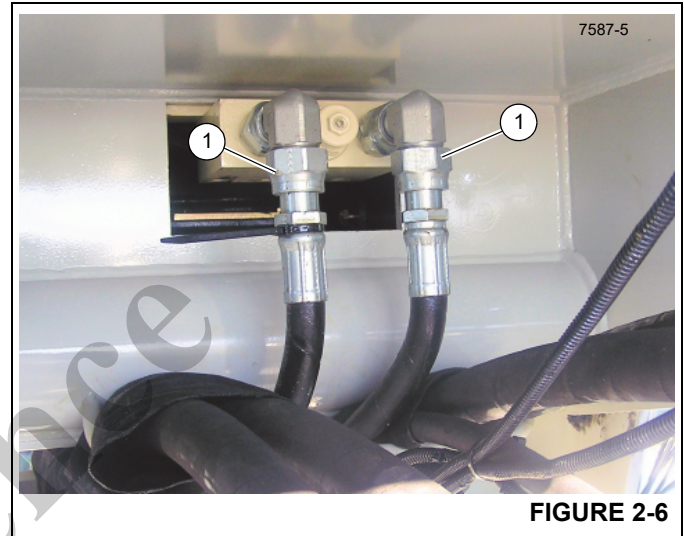

FIGURE 2-6
1. Remove the extend and retract (work port) hoses (1, Figure 2-6) from the telescope cylinder. Cap the telescope ports on the cylinder and plug the hoses.